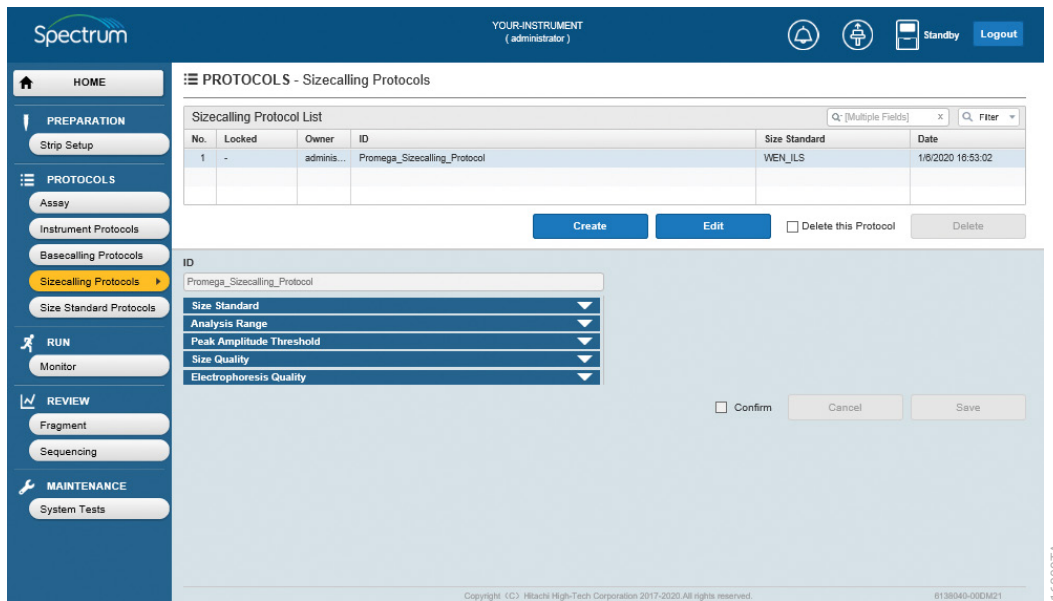

Figure 61. 'Sizecalling Protocols' screen with active Edit button.
7. Select the Sizecalling Protocol ID in the Sizecalling Protocol List to edit. This will activate **Edit** and the check boxes adjacent to the individual fragment sizes (Figure 61).
1. Select **Sizecalling Protocols** under PROTOCOLS from the Main Menu of the 'HOME' screen (Figure 12), and then select the Sizecalling Protocol ID in the Sizecalling Protocol List that you want to delete (Figure 61).
2. Check the "Delete this Protocol" box and select **Delete** (Figure 61).